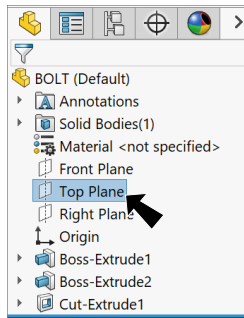

Fig. 15
Step 1. Click **Top Plane**  in the Feature Manager to display Plane is graphics area, **Fig. 15**.